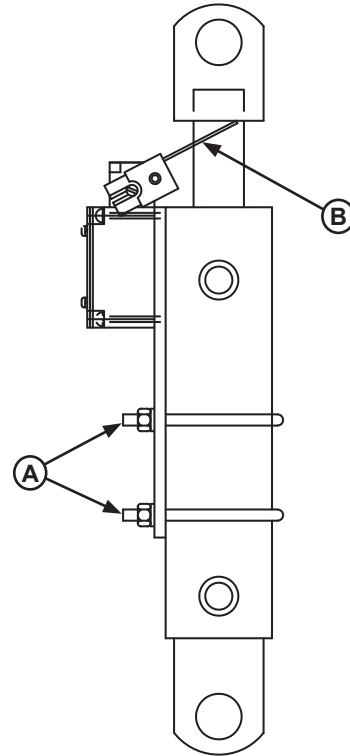

Figure 29
3. Press the RAISE button. The dock leveler should NOT raise. If the leveler did not raise, proceed with step 4. If the leveler did raise, loosen U-bolts (A) and adjust microswitch mounting plate forward so that switch feeler arm (B) is engaged by lip cylinder yoke when stored. See Figure 29.
6. Press the RELEASE button. The vehicle restraint should NOT disengage from the transport vehicle RIG bar or test fixture. If the vehicle restraint did NOT engage, proceed with step 7. If the vehicle restraint DID disengage, loosen U-bolts (A) and adjust microswitch mounting plate backward so that switch feeler arm (B) is not engaged by lip cylinder yoke in below-dock position. See Figure 29.